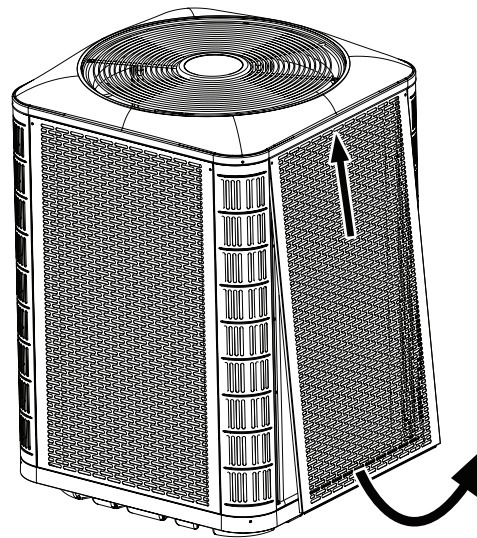
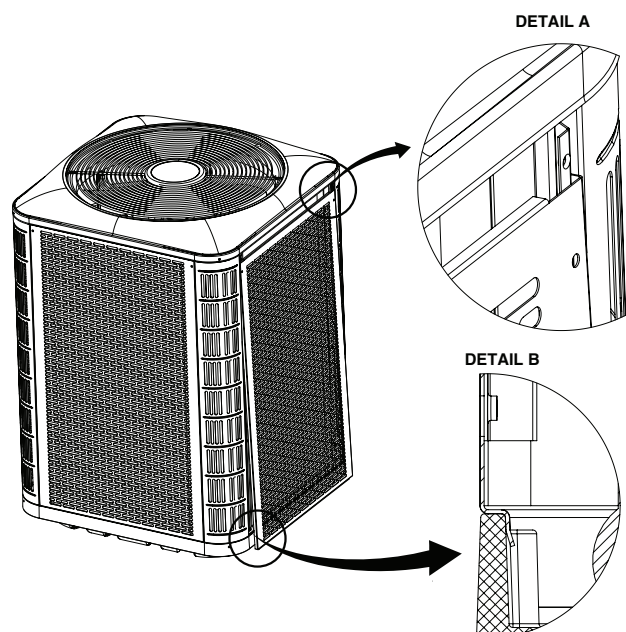

Figure 3. Panel Removal
Figure 4. Panel Installation
- To access the internal components of the unit, refer to Figure 3 \(page\) 6 for panel removal and Figure 4 \(page\) 6 for panel installation.
2. Slide the panel up towards the top pan in order to clear the bottom flange from the base pan. See Figure 3.
1. Insert the top corners of side panel flanges into the corner post channels as shown in Detail A in Figure 4.